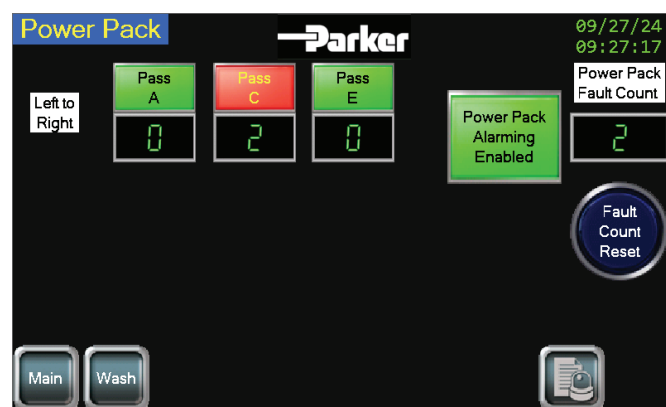

FIGURE 6d. ESP Tier Fault
3. If any Power Pack faults have occurred, the display will show how many per pass and the total number across all passes. Any active fault will display red as shown in Figure 6d below.